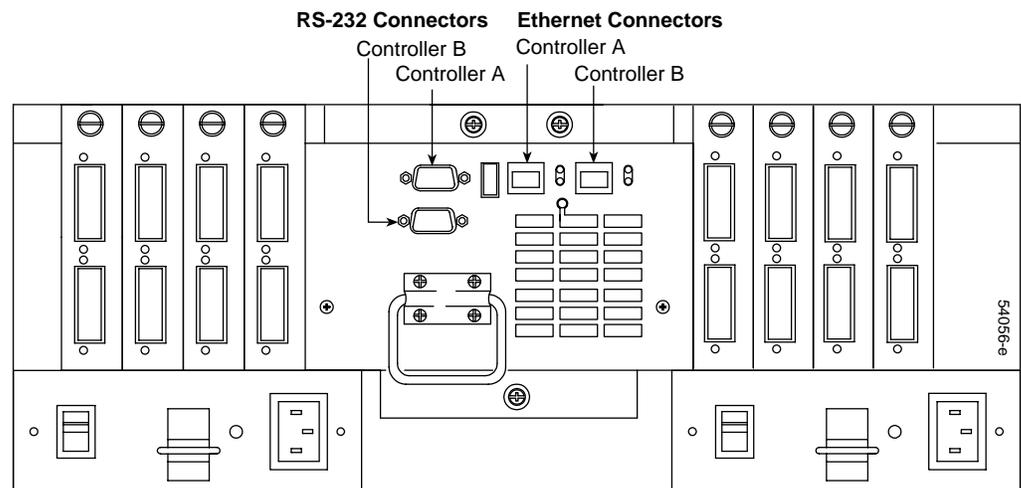

Figure 8-12 Connecting Ethernet and Serial Interface Cables
1. Connect the Ethernet interface cables (Figure 8-12).
2. Optionally, connect the serial interface cables (Figure 8-12).